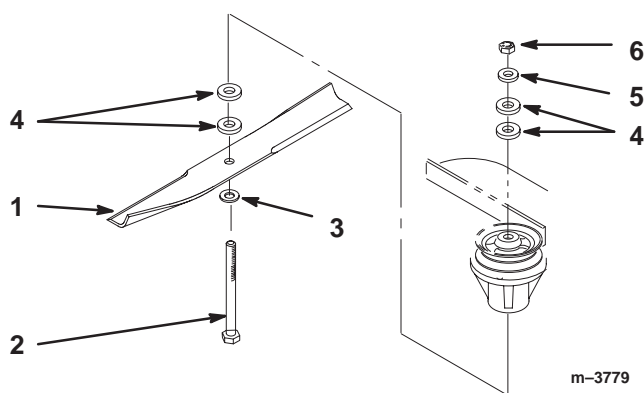

Figure 27
Hold the blade bolt with a wrench. Remove the nut, blade bolt, cone washer, blade, spacers and thin washer from the spindle (Fig. 27).
1. Place the blade onto the bolt, over cone washer. Select proper number of spacer(s) for height-of-cut and slide bolt into spindle (Fig. 27).
2. Install remaining spacer(s) and secure with thin washer and nut (Fig. 27).